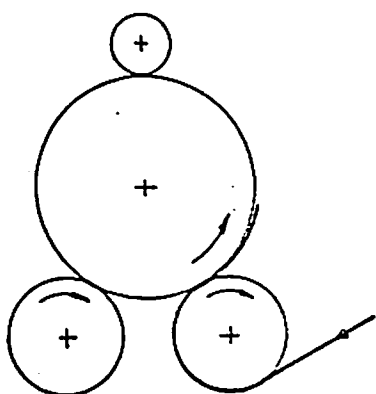

Fig. 1
2. Thread up the web through the machine at crawl speed as usual. If the leading edge of the web does not adhere to the rewound reel, fasten it temporarily (fig. 1).